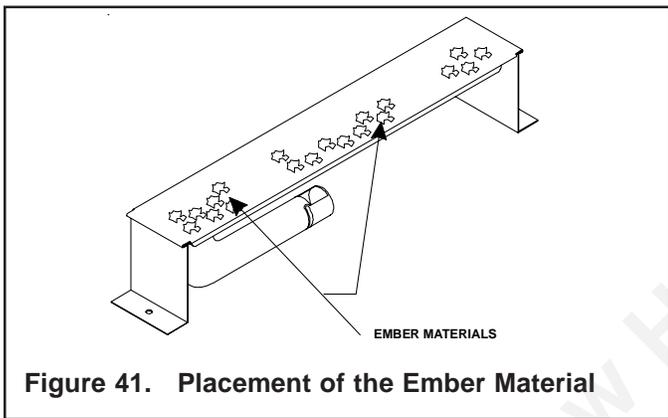

Figure 41. Placement of the Ember Material
- Place dime size pieces of ember material about 1/2 inch apart near port holes in burner top. Do NOT press embers into burner ports. Cover the top of the burner with a single layer of ember material. For best performance do NOT place embers on the ports at the rear of the burner (see Figure 41).